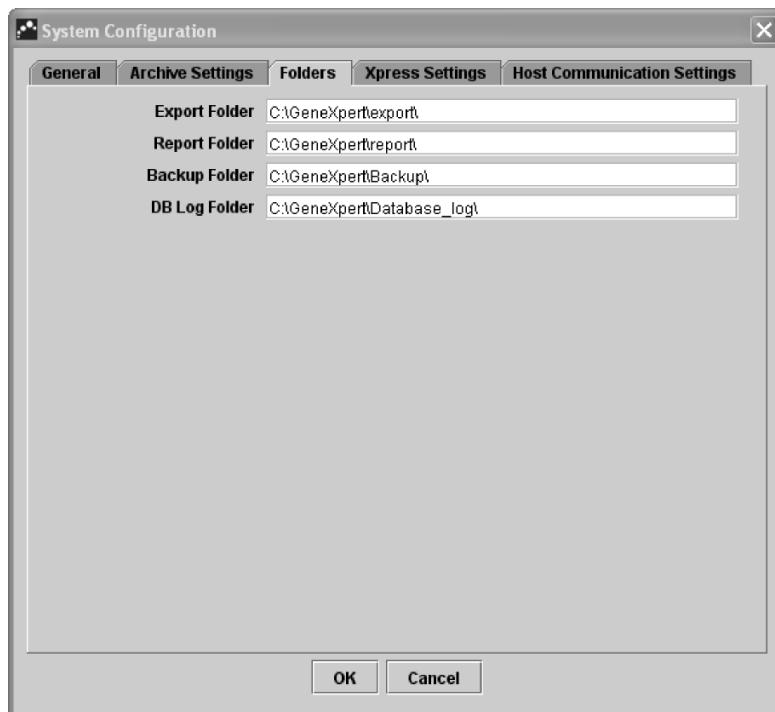

Figure 2-27. System Configuration dialog box (Folders window)
2. Click the **Folders** tab. The Folders window appears (Figure 2-27).